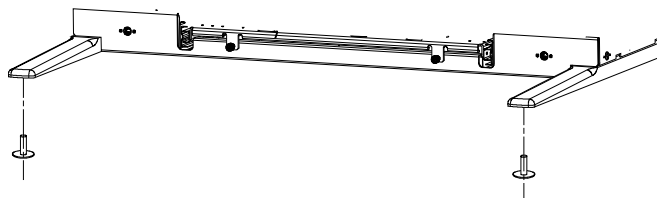

Figure 1-63 Console Stabilizer Pads
- 9.) Attach the two pads to the console stabilizers (see Figure 1-63).